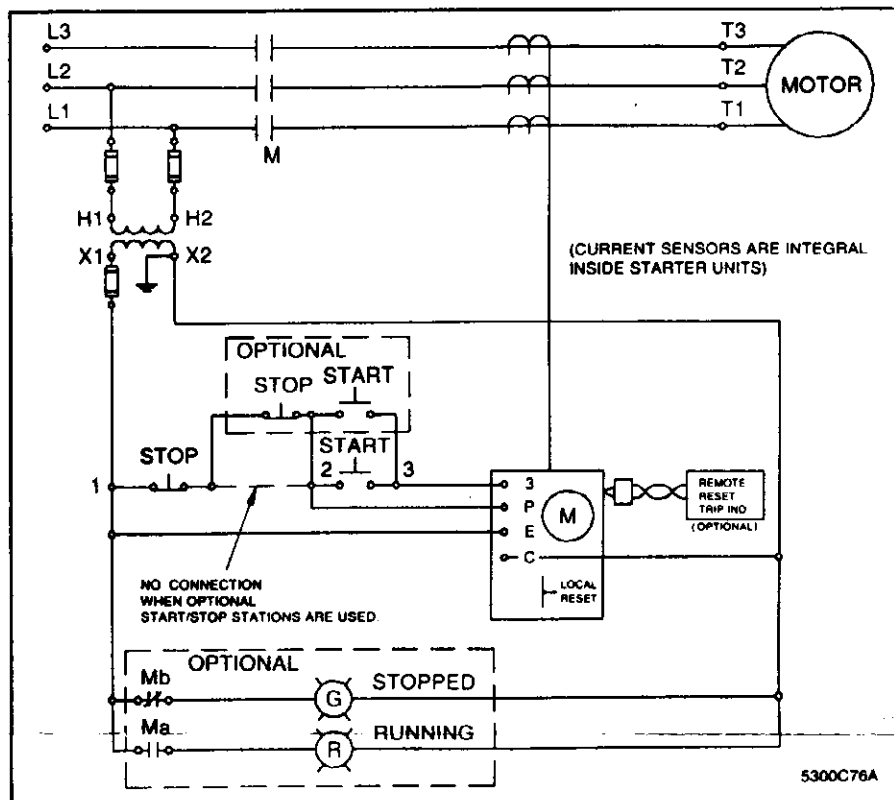

Fig. 1 Internal Holding Circuit - 3 Wire
4. Make control wire connections as shown in Figure 1. Strip control wires for terminals 3-P-E-C not more than 1/4 inch.